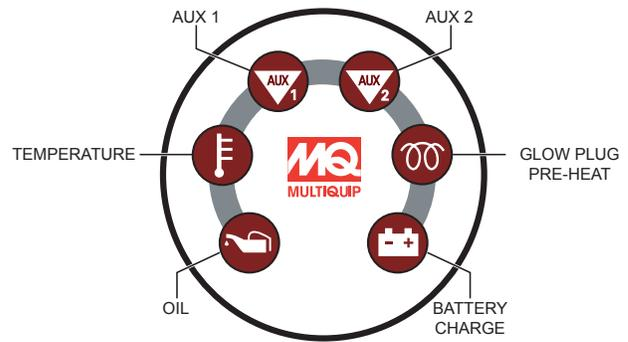

Figure 15. Indicator Lights
4. The **AUX 1**, **AUX 2**, **TEMPERATURE** and **OIL** indicator lamps will light for 10 seconds (Figure 15). The **BATTERY CHARGE** indicator lamp will remain lit until the engine starts.